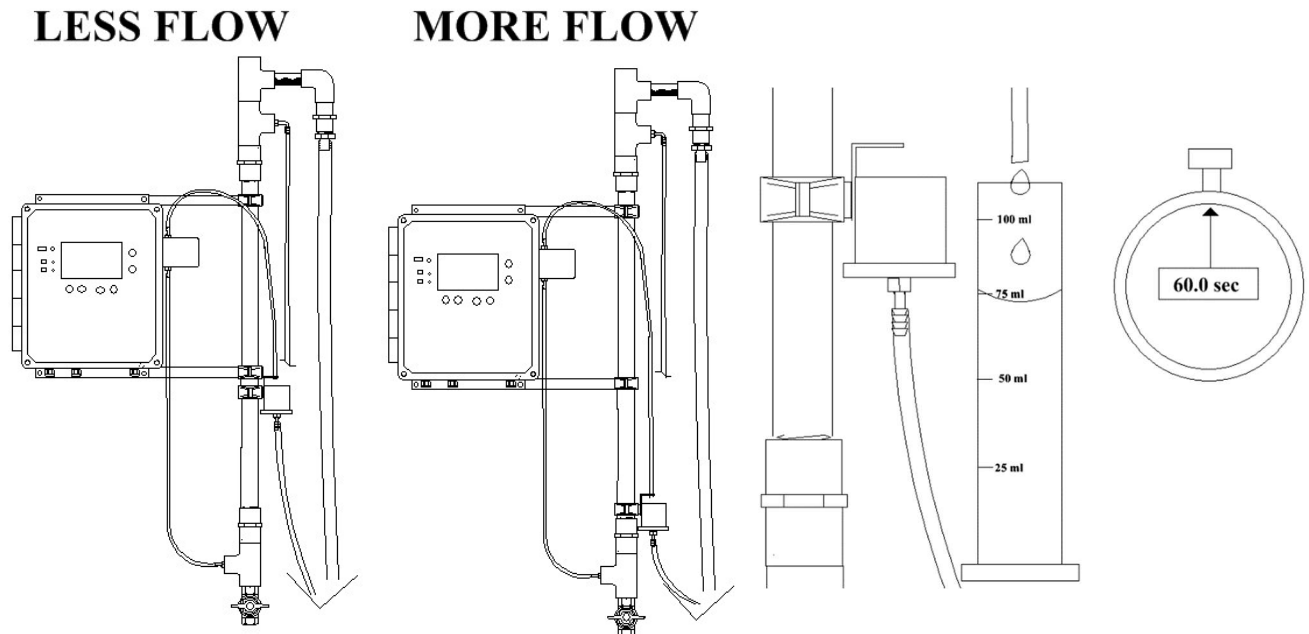
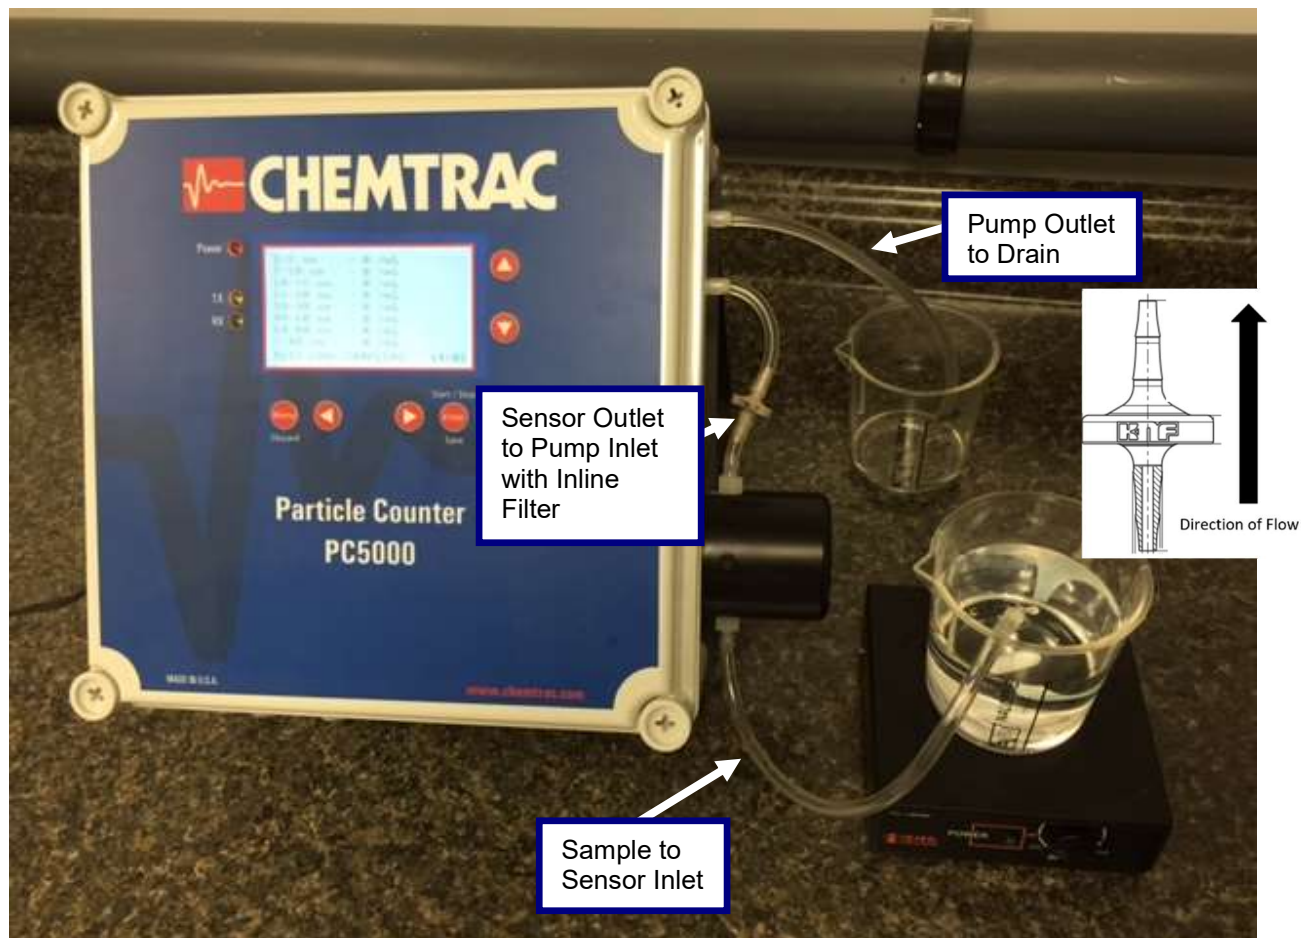

Figure 11 Sensor Flow Rate Adjustment
Figure 12 Tubing Connections for Grab Sampler Mode
The pump in the PC5000 particle counter is designed to draw the sample through the sensor to avoid any potential contamination. Tubing should go from the sample into the bottom of the sensor, and from the top of the sensor it goes through the filter and into the pump inlet, and then from the pump outlet to drain. See Figure 12
With a container of clean water plumbed to the PC5000 as shown in Figure 12, place the pump control switch (located on left hand side of unit, see figure 13) in the "On" position. While monitoring the flow rate at the pump outlet to drain, either via a flow meter or a graduated cylinder with stopwatch (similar to Figure 11), adjust the pump speed control dial until the proper flow rate of 75 ml/min is achieved.
2. With a container of clean water plumbed to the PC5000 as shown in Figure 12, prime the tubing and pump and flush out any air bubbles by placing the pump control switch (located on left hand side of unit) into the “On” position. Once primed, turn the pump control switch off.